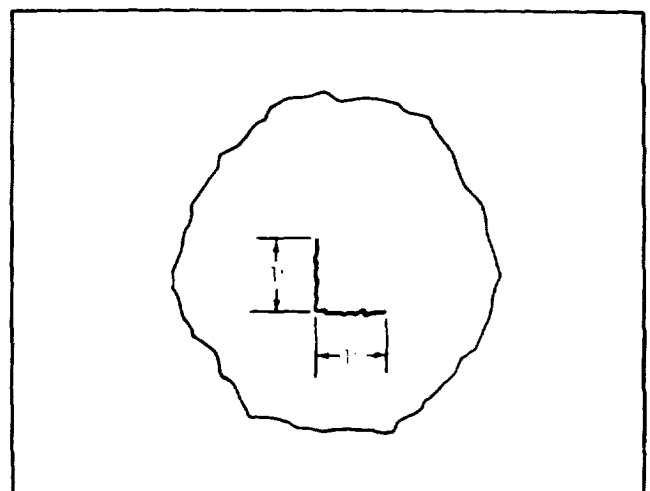

Figure 4-2. Snag or Three Corner Tear
- b. Patching snags or three corner tears 1-inch or less in length or less on the long leg of the tear (see Figure 4-2).